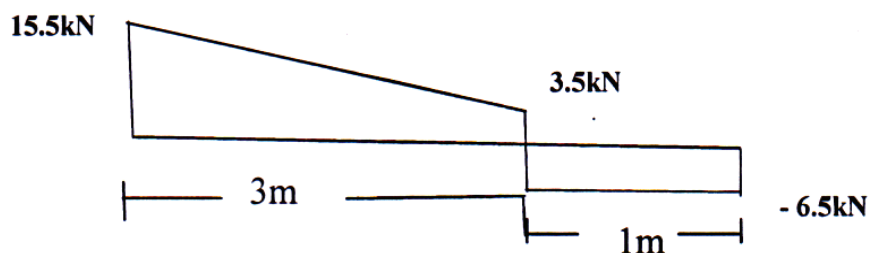

Figure 6.2
- b) The diagram shown in fig. 6.2 is the shear force diagram for a beam which rests on two supports, one being at the left hand end. No couple is acting on beam. Draw BMD and load diagram. [6]